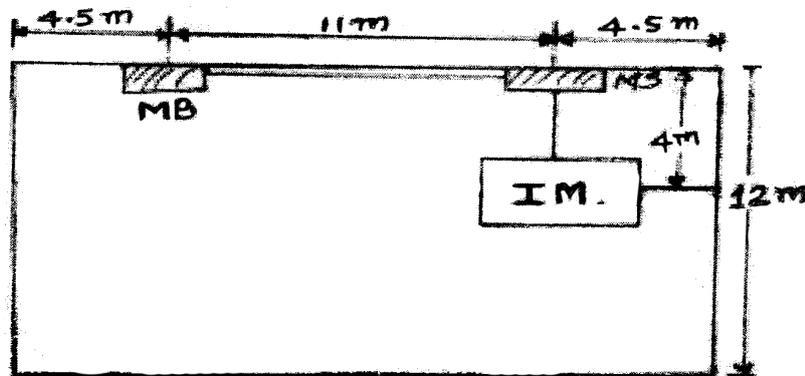

Fig. No. 1
- c) In a workshop, one 15 HP, 3-phase, 440 V, 50 Hz motor is to be installed. Prepare the estimate required for PVC surface conduit wiring. The plan of the workshop is shown in Figure No. 1.